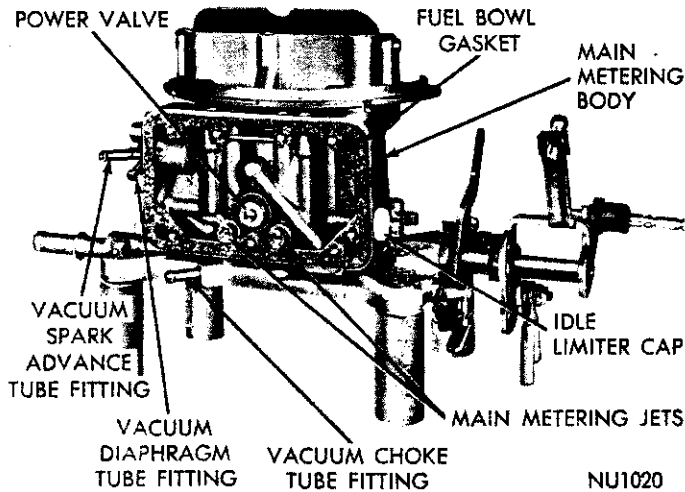

Fig. 21—Metering Body Installed
(11) Engage choke link in slot on choke control lever, then place choke diaphragm on main body. Install attaching screws and tighten securely.
(12) Install new gaskets on front and rear of metering body, then install in position on main body with jets toward outside (Fig. 21).
(13) Slide new seal washers over fuel bowl mount-